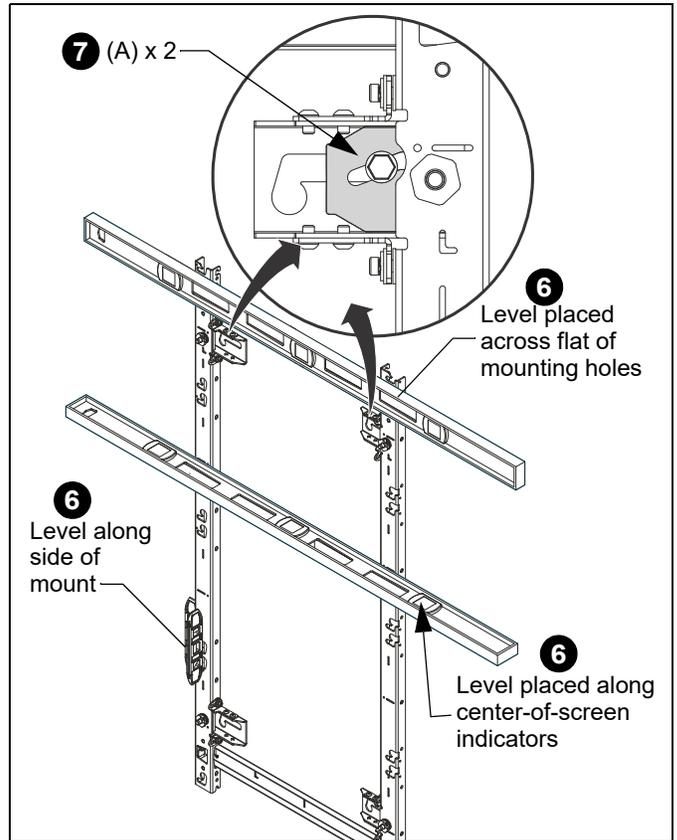

Figure 9
- Lay levels across flat of the mounting holes and center-of-screen indicators, and vertically along side of mount to ensure wall mount is square and level. (See Figure 9)
- Slide adjustment washers (A) behind head of upper fasteners in mount and tighten mount in place. (See Figure 9)
- Slide adjustment washers (A) behind head of upper fasteners in mount. (See Figure 9)